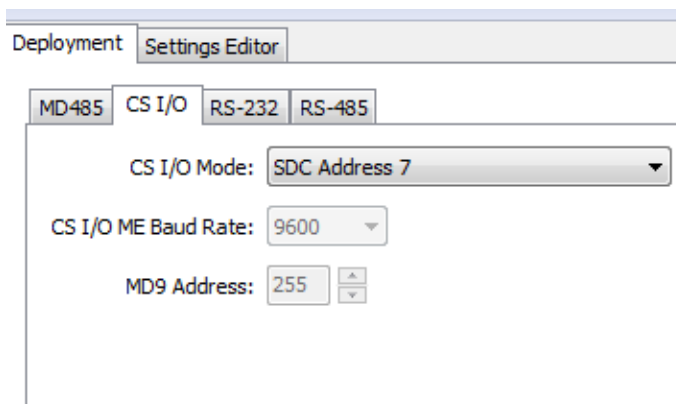

FIGURE 8-9. MD485 CS I/O tab
- 5. Click the **CS I/O** tab. Set the mode based on the type of datalogger being used. Below shows the configuration for a CR1000 with SDC7 used for the address (FIGURE 8-9).